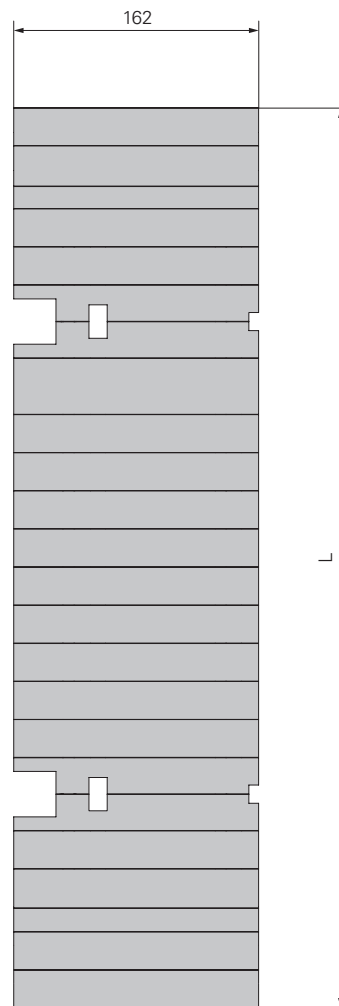

Fig. B6.08
5. Saw the cut-outs in the platform planking according to Fig. B6.08 + B6.09.